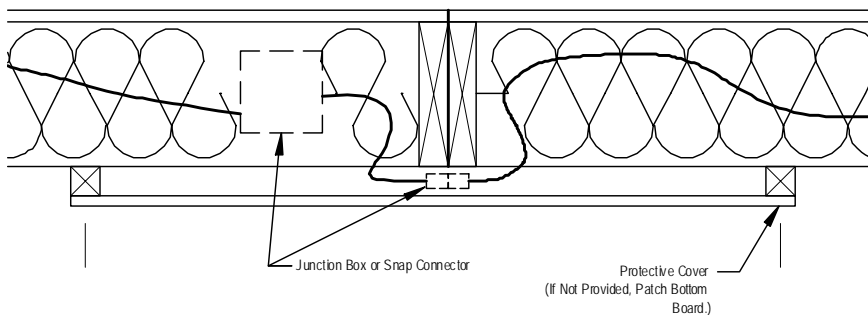

Figure 59. Floor electrical crossover wires with bumped-out access panel
- Route wires.** Pass the wires through predrilled holes or notches in the rim joist or if there is a single bumped-out access panel as in **Figure 59**, then under the rim joists. If holes or notches have not been provided and there is no bumped-out access panel, drill maximum one-inch diameter hole(s) half-way